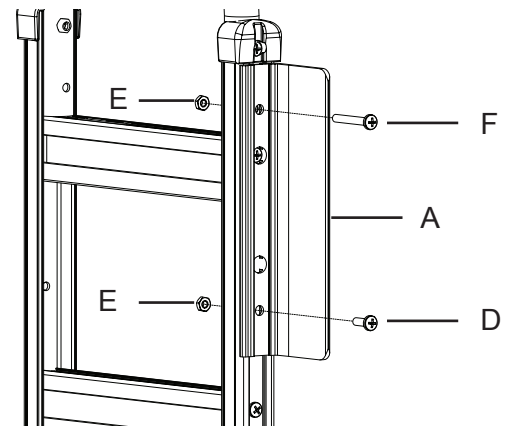

Figure 2
- Align one upper wing (A) as shown in Figure 2 so that the flat surface is toward the front of the frame.
- Insert replacement 1/4"-20 screw (F) through the upper wing mounting hole (see chart for correct screw length) and secure with a hex lock nut (E). Finger tighten only for now.
- Insert the 1/4"-20 x 3/4" long screw (D) through the lower mounting hole in the wing; use a hammer to punch the screw through the red stripe. Secure with a hex lock nut (E). Finger tighten only for now.